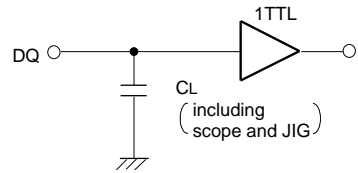

Fig.1 Output load
(1) MEASUREMENT CONDITIONS
- Output loads Fig.1, C_L=30pF